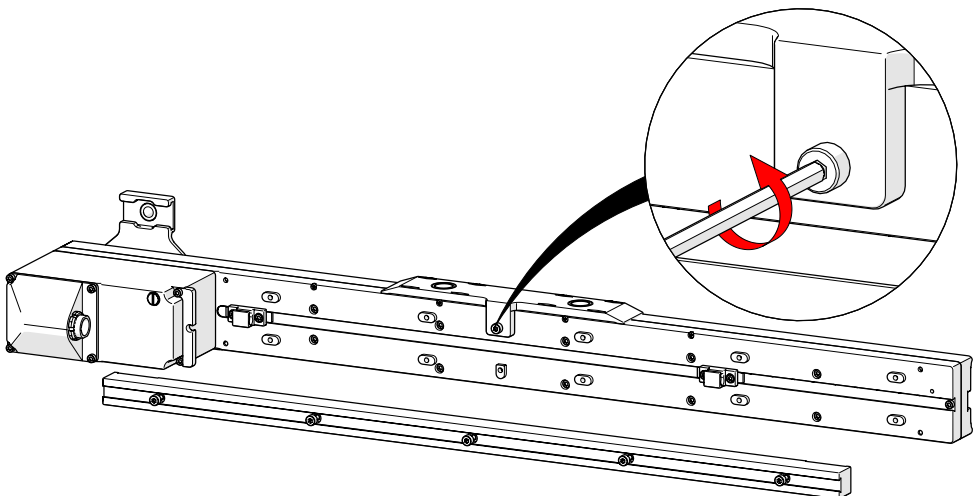

Fig. 145 - Remove magnetic base
4. Remove the magnetic base from the raster arm (Fig. 145).